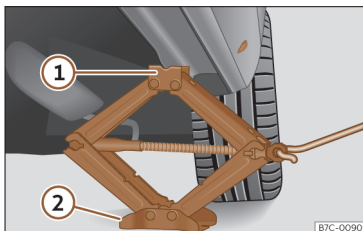

Fig. 230 Crossbar: mounting the jack on the vehicle.
- Turn the jack crank handle, located below the strut support point, to raise it until the tab ① >>> **Fig. 230** is below the housing that is provided.
- Align the jack so that the tab ① “grips” onto the housing provided on the cross member and the mobile base ② is resting on the ground. The base plate ② should fall vertically with respect to the support point ①.